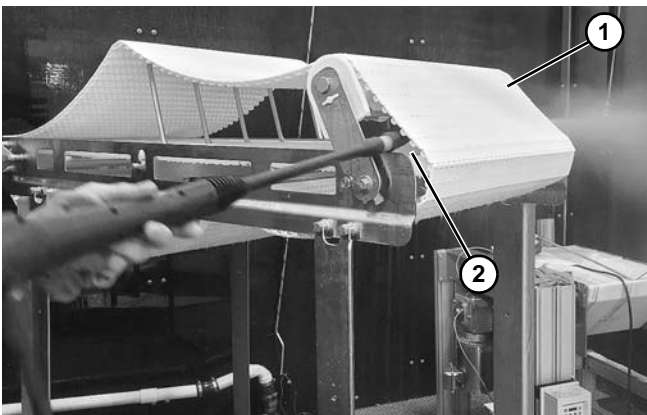

Figure 6
- b. Under belt (**Figure 6, item 1**) and around tail end wear strips (**Figure 6, item 2**).